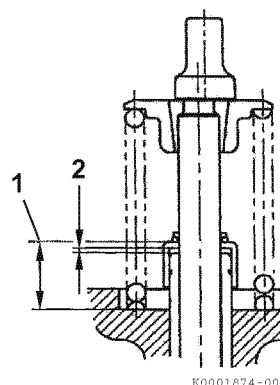

Figure 6-27
2. Measure the distance (Figure 6-27, (1)) from the cylinder head to valve stem seal to ensure proper clearance (Figure 6-27, (2)) between the valve guide and seal. See Valve Stem Seal Projection specification on page 6-4.